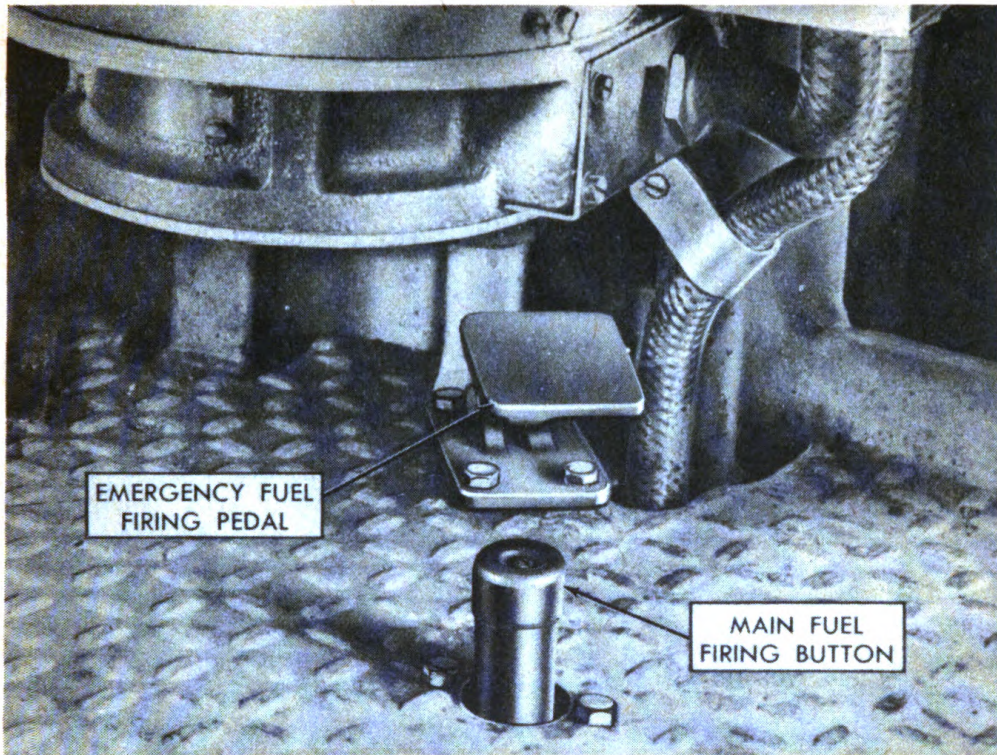

Figure 8—Gun controls (operated by gunner's right foot).
(7) *Main fuel firing button* (fig. 8). Pressure of the right foot on this button causes main fuel to be discharged through the nozzle of the flame gun, where it is ignited by the ignition flame. At the same time pressure on this button causes secondary fuel to flow into the gun body so that it surrounds the main fuel stream or "rod." The button is mounted on the turret basket floor in front of the gunner. To operate, press button with right foot. To cease firing, lift foot off button.
(8) *Emergency fuel firing pedal* (fig. 8). In the event of failure of the electrical circuit which is operated from the main fuel firing button, an emergency fuel firing pedal may be used. It is located on the basket floor under the turret traverse motor generator. It provides a mechanical means